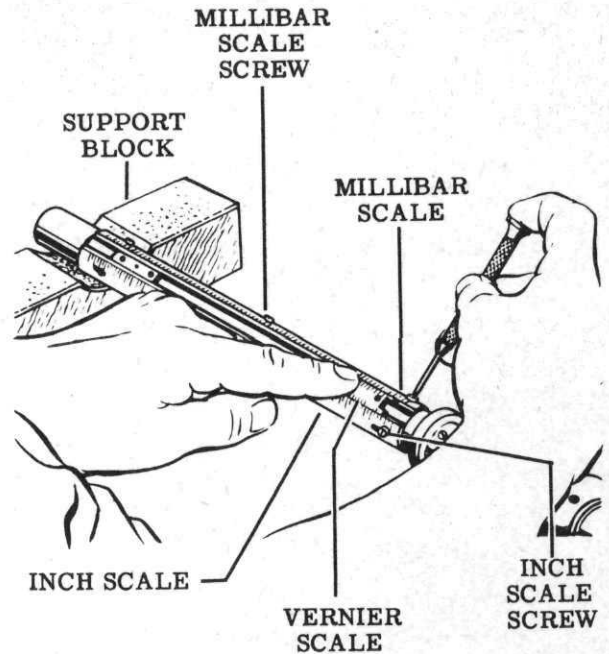

Figure 37
23. Place the vernier scale between the inch and millibar scales. Adjust the position of the inch and millibar scales until the vernier scale is a snug sliding fit between them. Then tighten the screws. Insure that the vernier scale is exactly centered with respect to the tube housing slot in all positions along the inch and millibar scales. Remove the vernier scale. See Fig. 37.